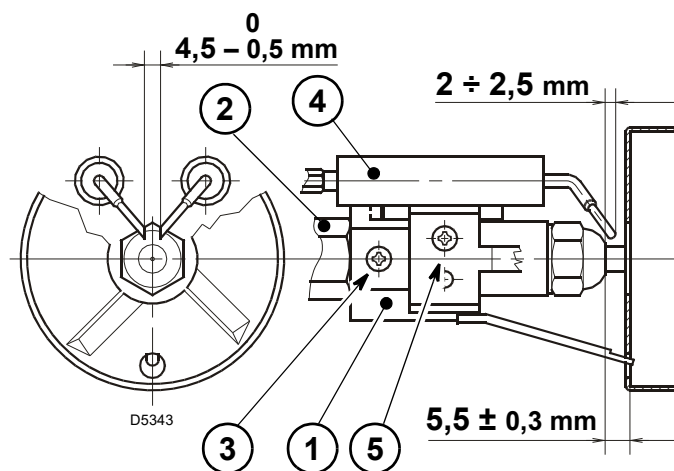

Fig. 10
These dimensions Fig. 10 must be respected.
- Rest the diffuser disc-holder assembly 1)(Fig. 10) against the nozzle holder 2)(Fig. 10) and lock it in place with the screw 3)(Fig. 10).
For any adjustments of the electrode assembly 4), loosen screw 5)(Fig. 10).
- Remove the wires 4) from the electrodes, loosen the screw 3)(Fig. 10) and remove the diffuser disc-holder assembly 5) from the nozzle-holder assembly 7).